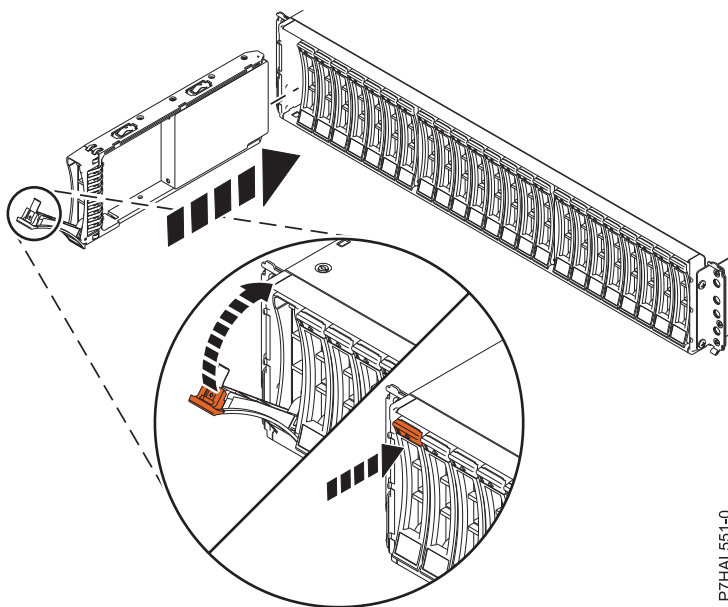

Figure 4. Installing or replacing the disk drive in the 5887 disk drive enclosure
2. With the handle in the unlocked position, as shown in Figure 4, support the bottom of the drive as you align it with the guide rails in the drive enclosure.
4. Lock the drive by rotating the bay handle (A) in the direction that is shown in Figure 4.